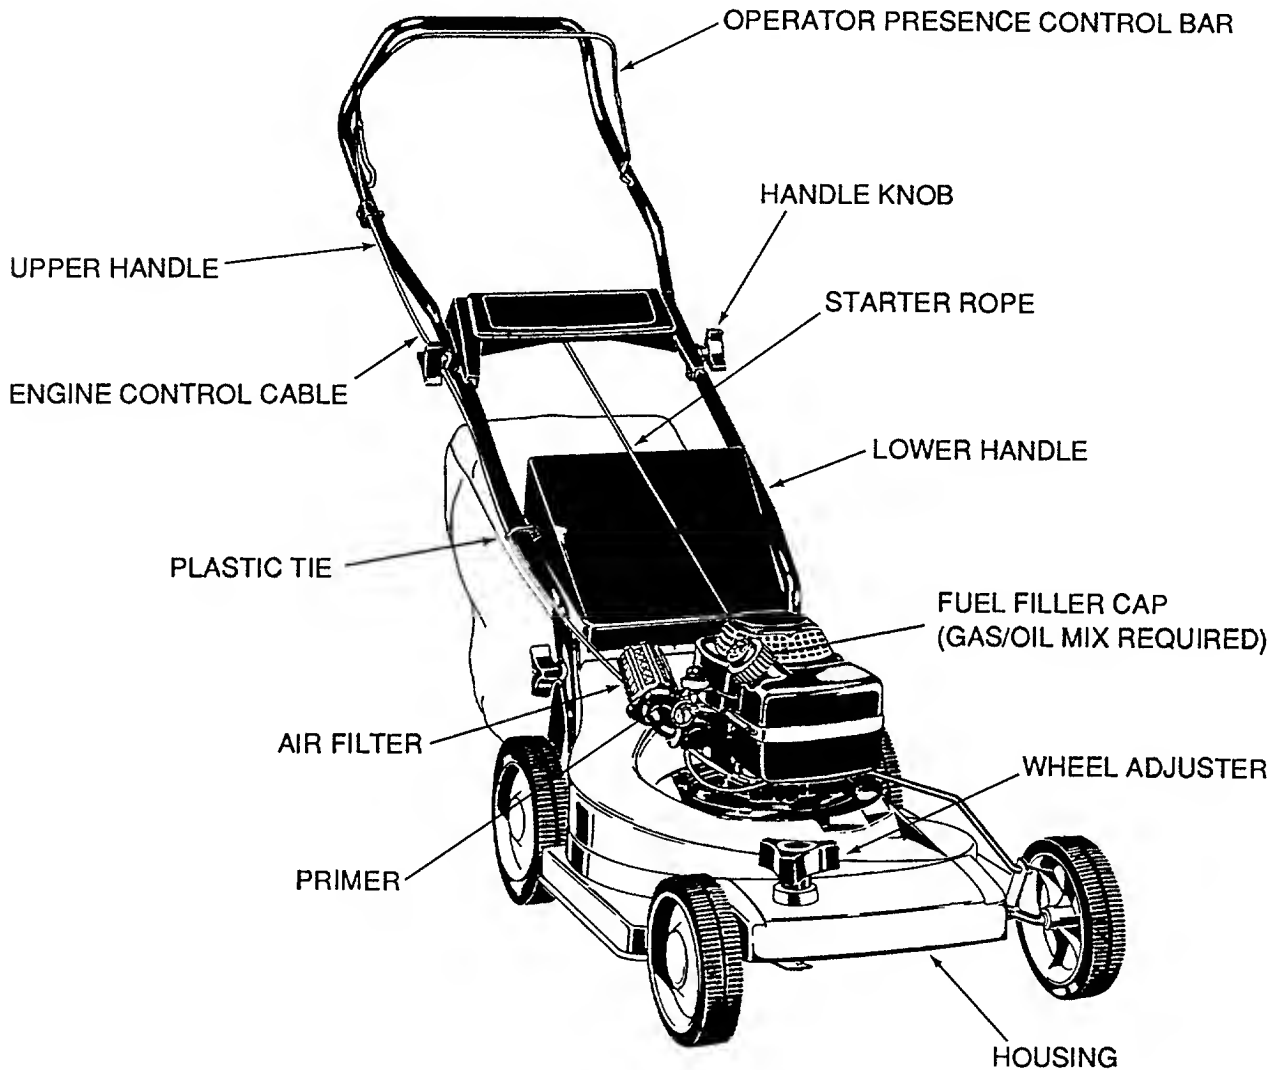

Fig. 5
- Secure engine cable to lower handle with plastic tie (See Fig. 5).
- PRIME ENGINE (See Fig. 5 on page 7) -